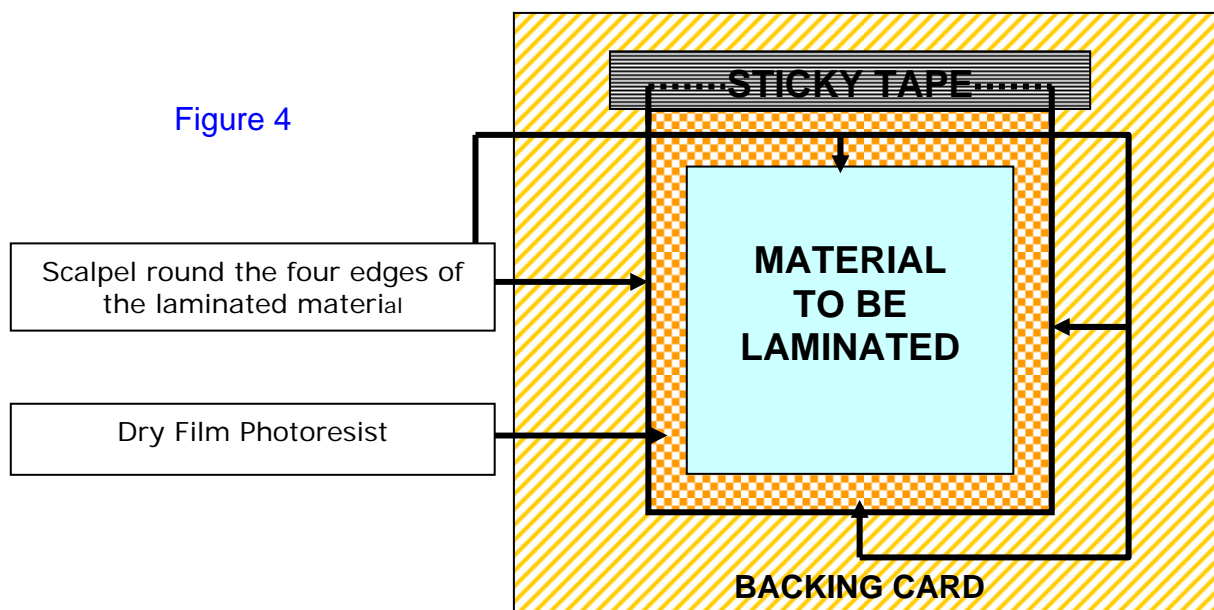

Figure 4
- 7 When the material has exited the laminator, leave it to cool for 2 to 3 minutes in a dark environment, and then taking a sharp scalpel, cut round the edge of the material that has been laminated and remove the material from the carrier sheet (see figure 4 below)